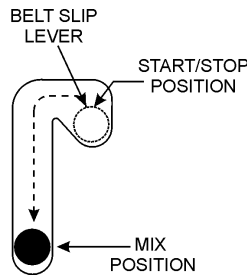

Figure 20. Belt Slip Lever (Mix Position)
- Place the belt slip lever (Figure 20) in the *mix* position. This will tilt the engine placing tension on the V-belts enabling the shaft to rotate.
- Place the **belt slip lever** in the **start/stop** position (Figure 20).